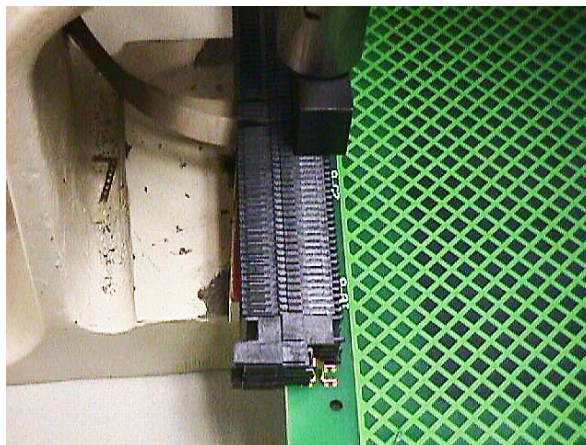

Figure 16
- Step 4 Place seating block on top of the wafers behind the tabs that hold the stiffener in place, and press until wafers are properly seated (all wafers flush) or gently tap with plastic hammer. Remove shims by pulling away from the connector. See figure 16